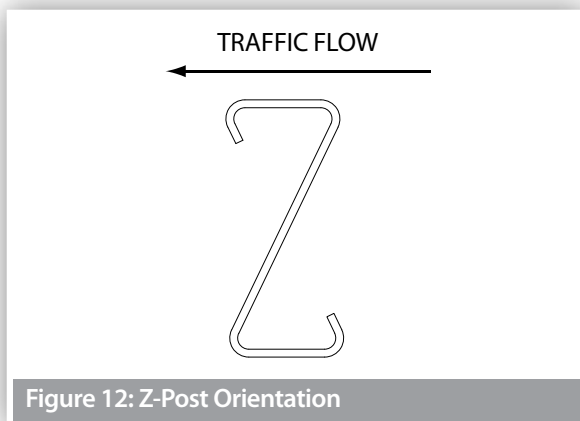

Figure 12: Z-Post Orientation
3. The post in relation to the direction of traffic is orientated as per Figure 12 and 13.